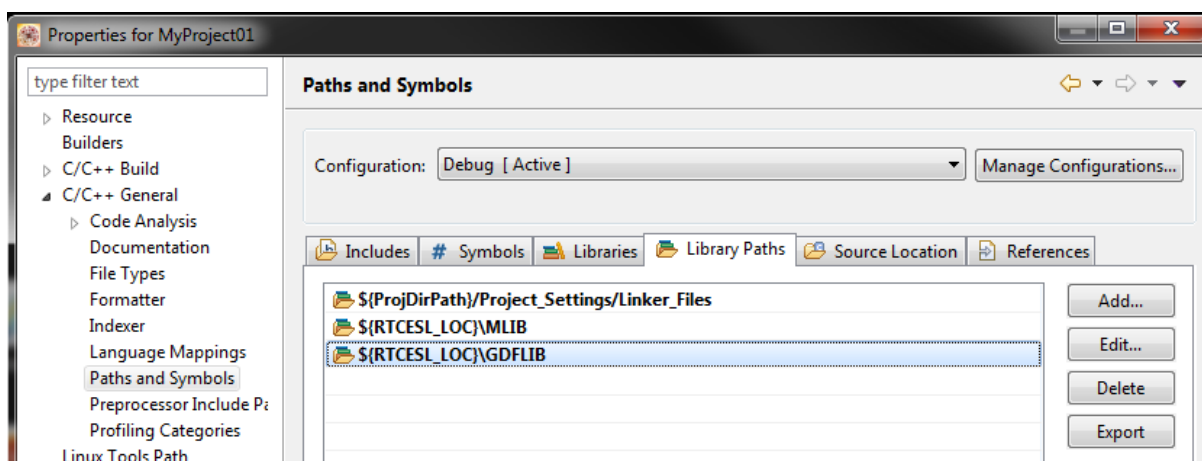

Figure 1-18. Library paths
3. In the right-hand dialog, select the Library Paths tab. See Figure 1-18.
8. Click OK, and the paths will be visible in the list. See Figure 1-18.